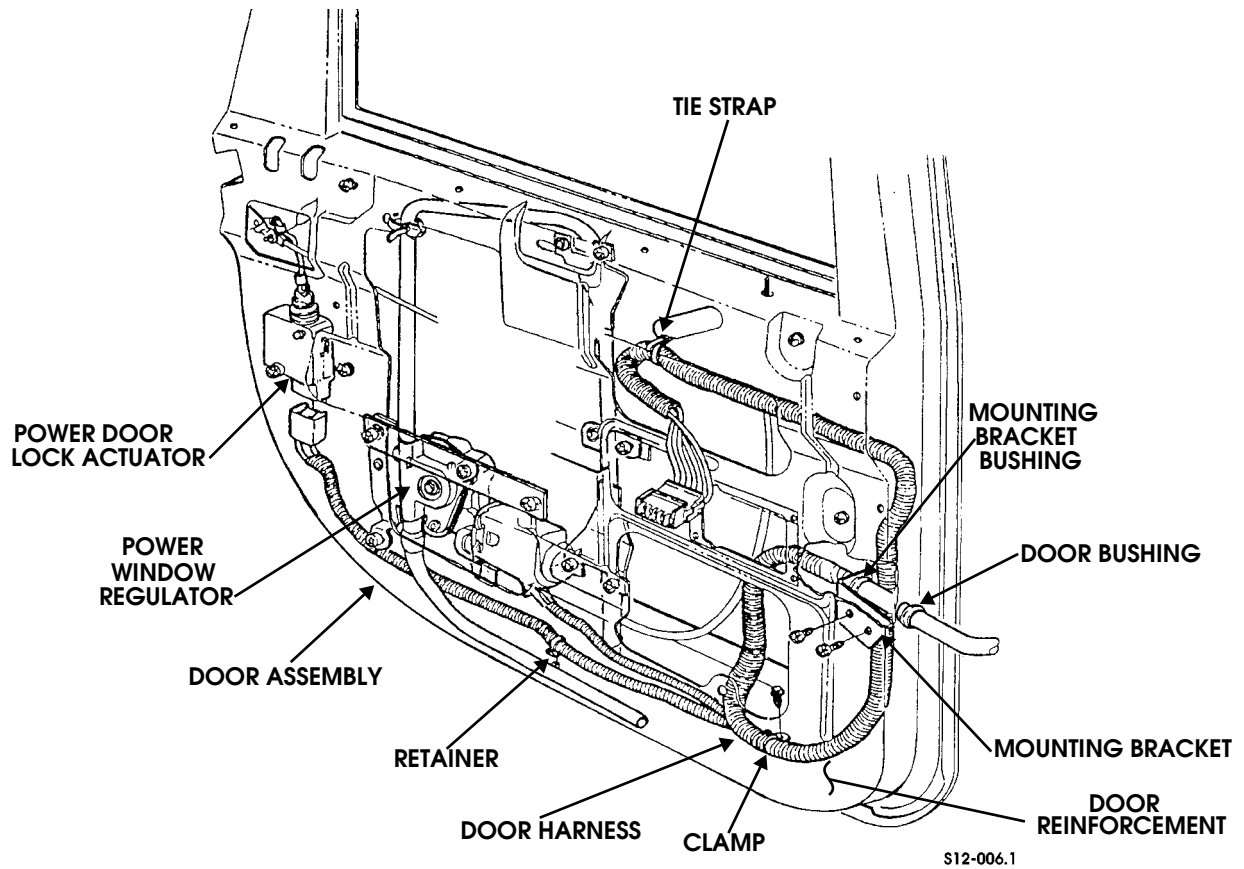

Figure 12-129: Rear Door Harness
9. Remove two self-tapping screws and harness mounting bracket from door assembly (Figure 12-129).
1. Route harness through harness mounting bracket, mounting bracket bushing, and door bushing (Figure 12-129).
7. Connect harness connector to power window regulator (Figure 12-129).